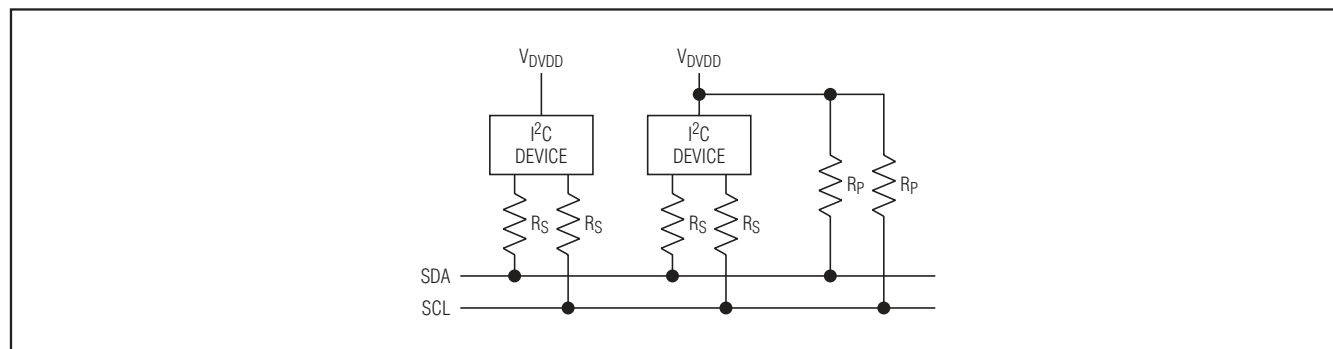

Figure 4. Series Resistors ( $R_S$ ) for Protecting Against High-Voltage Spikes
( $V_{DVDD} = 1.8V$  to  $3.6V$ ,  $T_A = -40^{\circ}C$  to  $+85^{\circ}C$ .) (See Figure 4.)
**Note 18:** The maximum fall time of 300ns for the SDA and SCL bus lines as shown in the *I2C Bus Controller Timing* table is longer than the specified maximum  $t_{OF\_I2C}$  of 250ns for the output stages. This allows series protection resistors ( $R_S$ ) to be connected between the SDA/SCL pins and the SDA/SCL bus lines as shown in the *I2C Bus Controller Timing (Acting as I2C Slave)* table without exceeding the maximum specified fall time. See Figure 4.